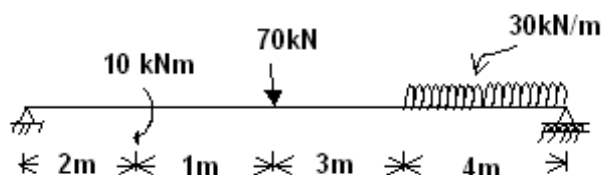

Figure 3b
- (b) Draw shear force and bending moment diagrams and mark the salient values. {As shown in the Figure 3b}. [4+12]